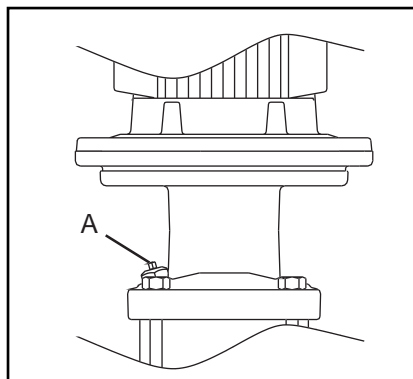

Fig. 14 17526
3. Loosen the drain plug (A, Fig. 14) one or two turns until water and air come out.